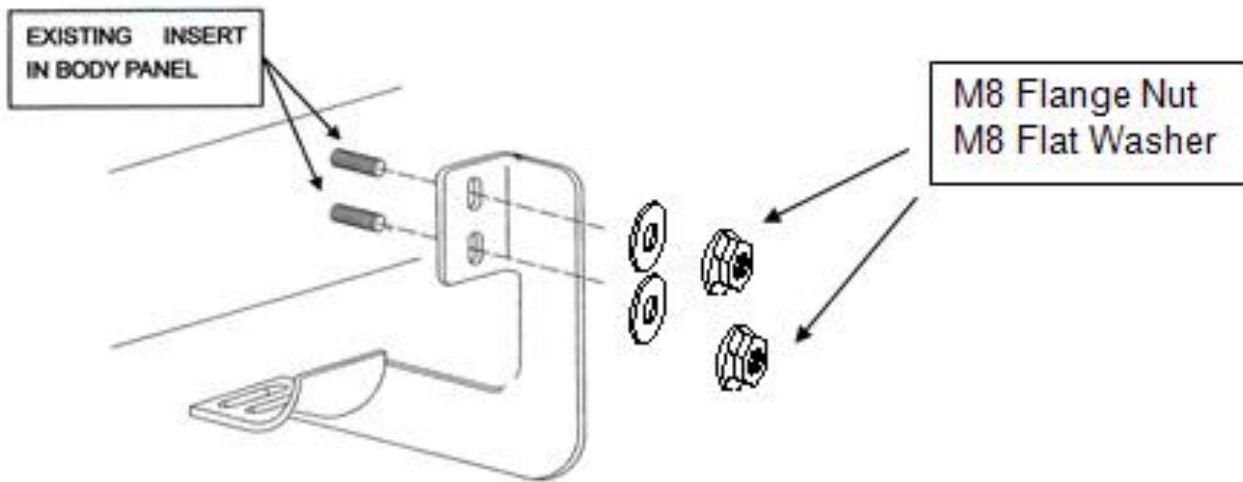

Figure 1. Driver Side – Front & Rear Bracket
- Determine driver side brackets. All driver side brackets are identical with metal cup facing toward the rear of the vehicle (see Fig. 1).
- Install driver side bracket closest to the front wheel first. Use one, M8 flat washer, M8 Flange Nut by attaching to underside of body panel. Hand tighten. Use existing factory hole in body panel for install (see Fig 1).
- Attach remaining driver side brackets to underside body panel by using 2 M8 Flange Nut, M8 flat washers per bracket. Hand tighten. Use existing factory holes in body panel (see Fig. 1).